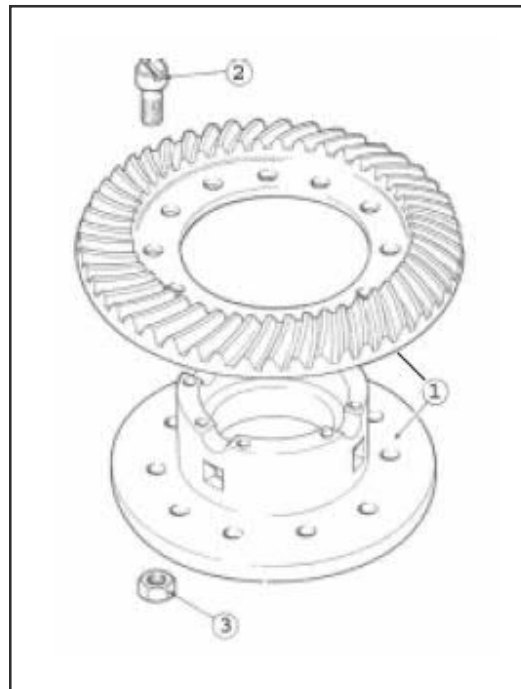

Fig.16
7. Apply an even coating of adhesive to both Item 1 not shown for crown wheel bottom mating surfaces. (Item 1 in Fig.16).
9. Fit the twelve bolts (Item 2 in Fig.16) with their heads nearest the crown wheel teeth.
11. Fit the nuts and tighten them progressively and evenly to a torque of 160 Nm.(118 lbf.ft.) (Item 3 in Fig.16).